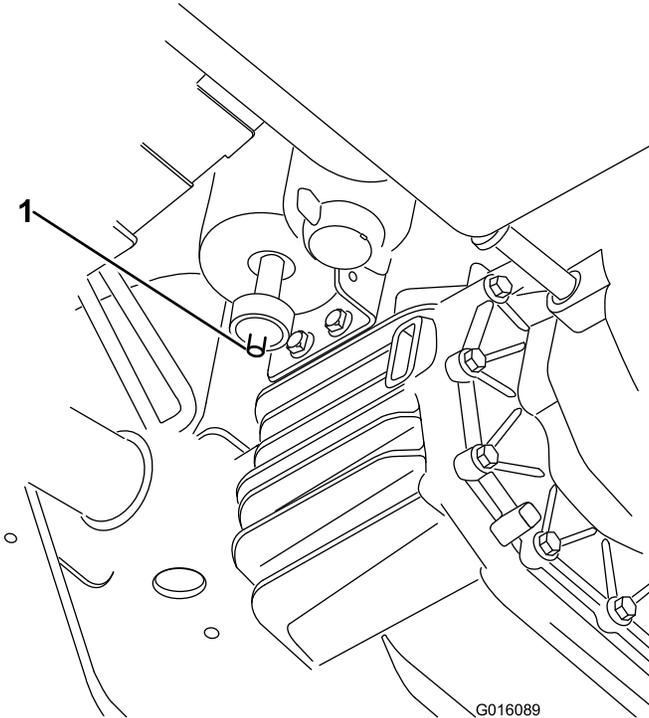

Figure 45
1. Locate the air filter on the bottom of the carbon canister (Figure 45).